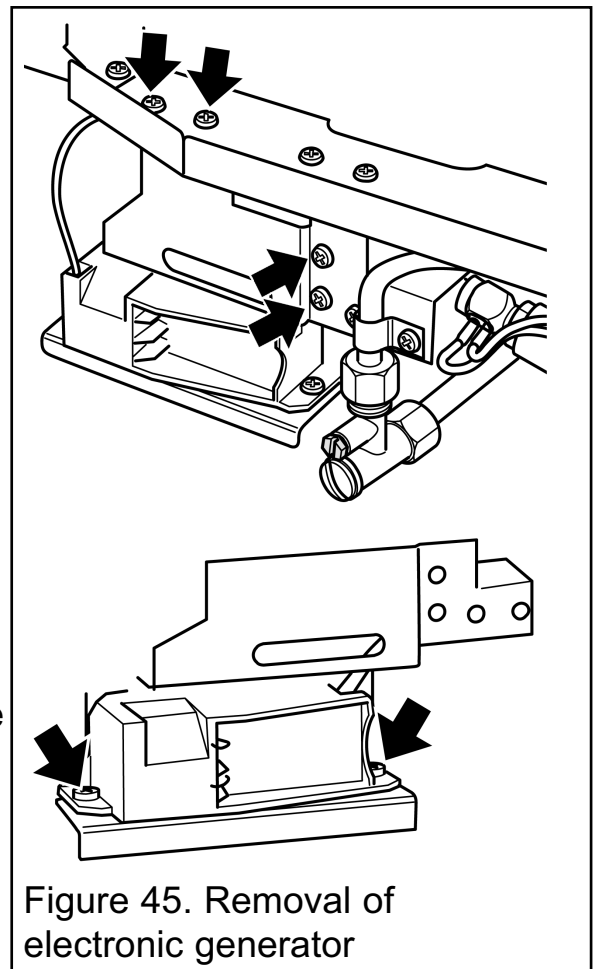

Figure 45. Removal of electronic generator
5. Unscrew the four support bracket screws (See figure 45). The generator and its support bracket can now be moved forward. Be careful not to apply tension to the microswitch leads.
6. Remove the two fixing screws that attach the generator unit to the support bracket. The igniter generator can now be removed (See figure 45)